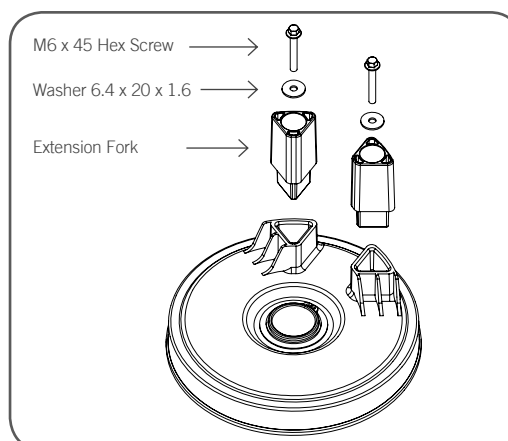

Fig.09
- Insert the two forks into the ring gear (**Fig. 09**).